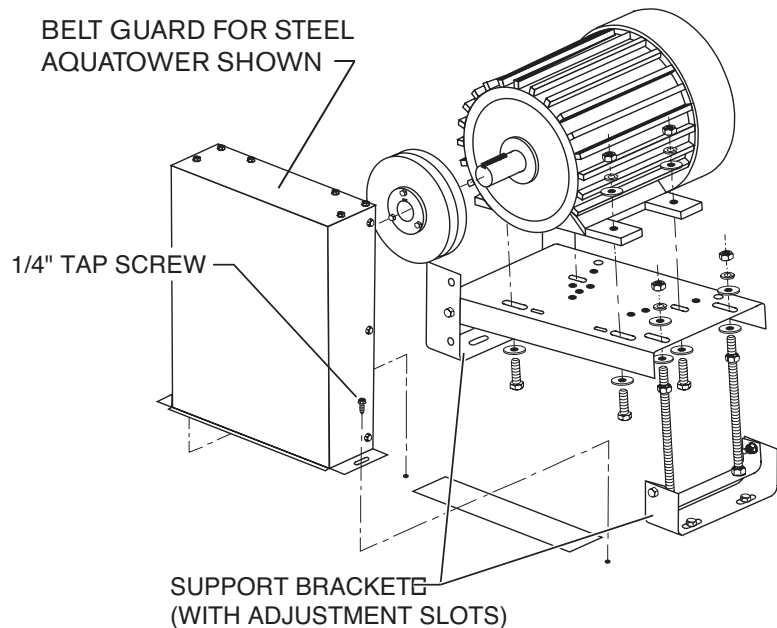
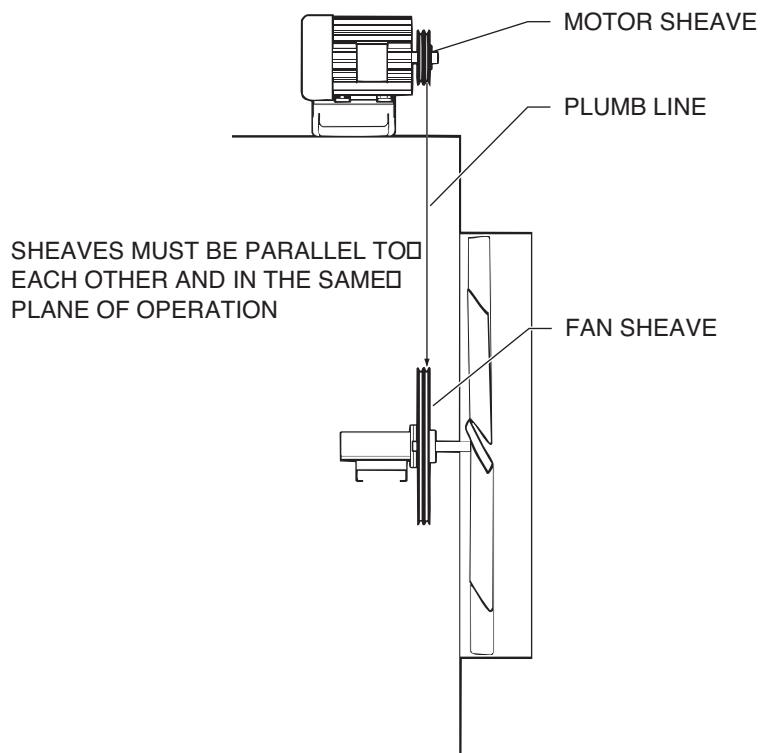
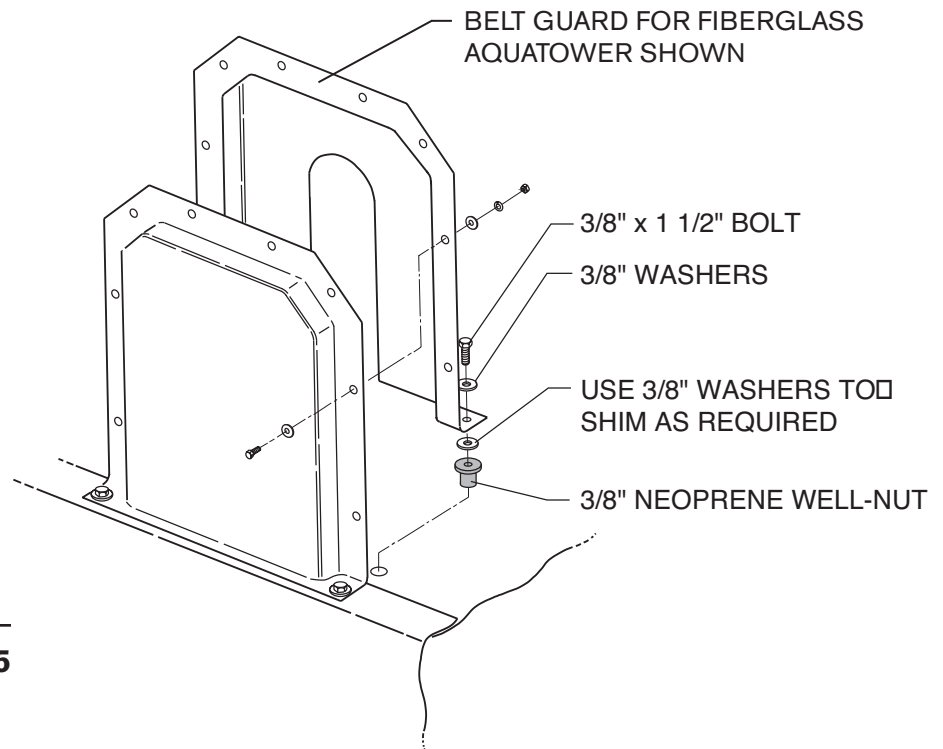

Figure 3
Figure 4
Figure 5
3. Attach motor to motor base with four bolts, flat washers, lock washers and nuts provided, see Figure 3. You may want to loosen the adjusting bolts and raise the motor base so you can reach under the motor base to tighten the motor hold-down bolts.
5. Install motor sheave and align it with fan sheave. Motor support brackets are slotted to assist in alignment. See Figure 3. A plumb line will be helpful in aligning sheaves. See Figure 4.
8. Install the belt guard as shown in Figure 3 for a steel tower or Figure 5 for a fiberglass tower.